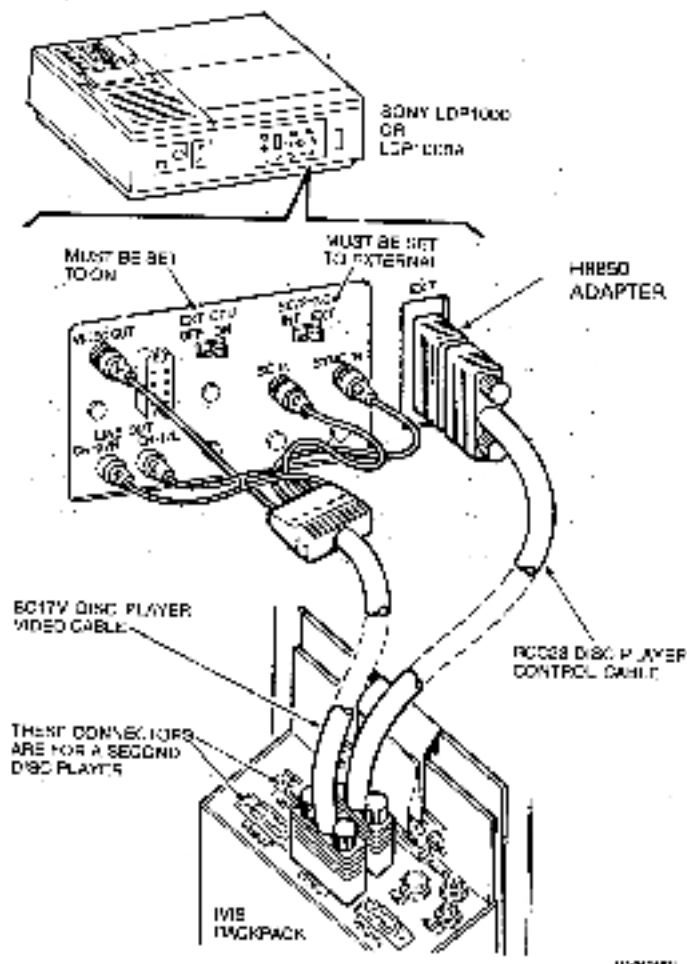
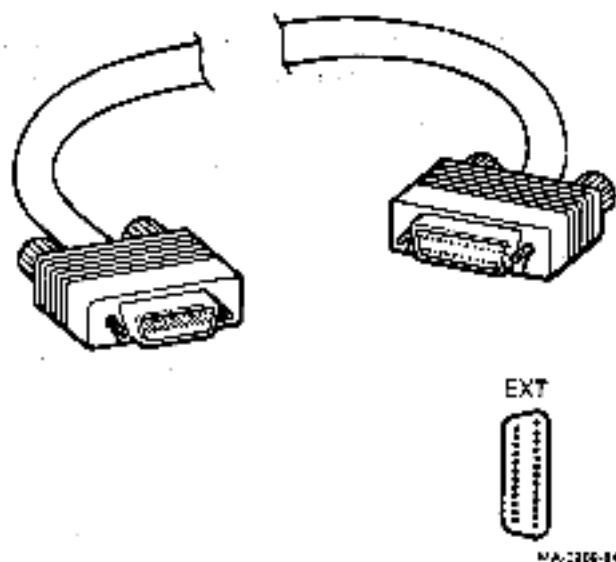

Figure 5-2 Connecting a Sony LDP-1000A Video Disc Player
Figure 5-10 BCC23 Disc Player Control Cable
- o With Connectors - Look for SYNC and SC connectors and an INT/EXT switch similar to those shown Figures 5-2 and 5-3. The IVIS system can control synchronization of an image coming from a disc player.
The IVIS system includes a BCC23-10 control cable (Figure 5-10) that connects from the backpack Control 1 or Control 2 connector to a player or other component with remote computer control capability. See Figures 5-2 and 5-3.
- o With a connector - Look for an "EXT CONTROL" connector similar to those in Figures 5-2 and 5-3. (The component may or may not have a "CPU CONTROL" switch.) The EXT CONTROL connector will let the IVIS system control component functions.